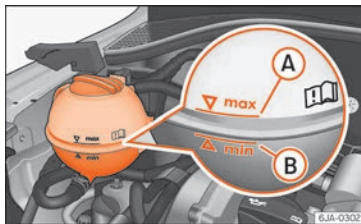

Fig. 245 Engine compartment: coolant tank.
- Read off the coolant level on coolant expansion tank » **Fig. 245**. When the engine is cold, the coolant should be between marks **B** (min.) and **A** (max.). When the engine is hot, it may be slightly above mark **A** (max.).
- Cover the cap on the coolant expansion tank » **Fig. 245** with a cloth and **carefully** unscrew the cap.
Never fill the coolant tank above mark **A** (max.) **>>> Fig. 245** ! Excess coolant is forced out of the cooling system through the over-pressure valve in the filler cap of the expansion tank when the engine heats up.